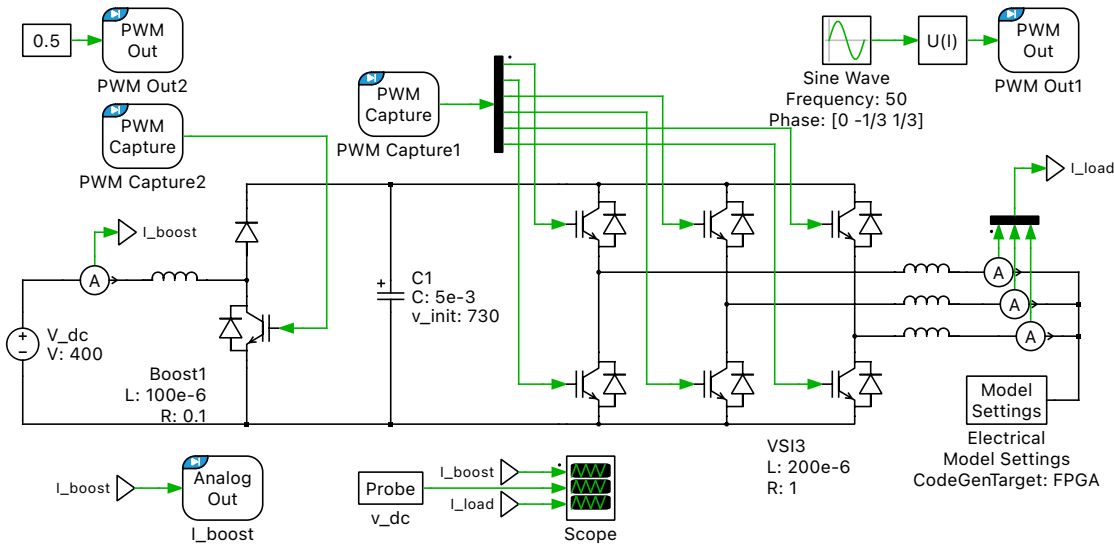

Figure 10: Schematic inside the “Plant” Subsystem for the cascaded Boost Converter and VSI, using the FlexArray Solver
- 1 Connect and set the Electrical Model Settings block as **Target: FPGA**. Refer to Fig. 10 for the schematic of the current model.